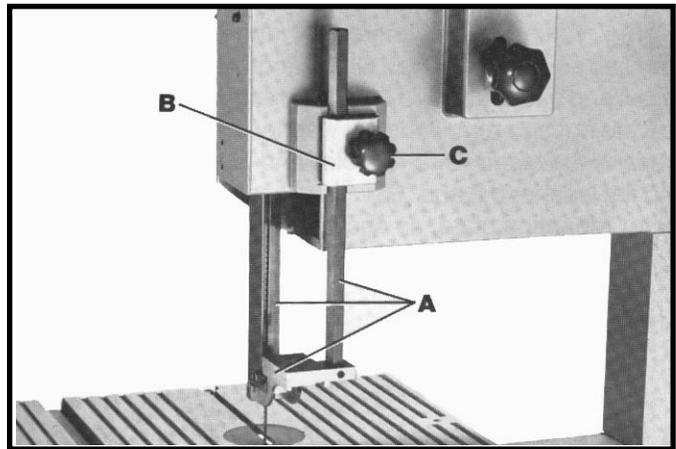

Fig. 11
1. Fasten the upper blade guide assembly (A) Fig. 11, to the side of the band saw using the lock plate (B) and lock screw (C) as shown.